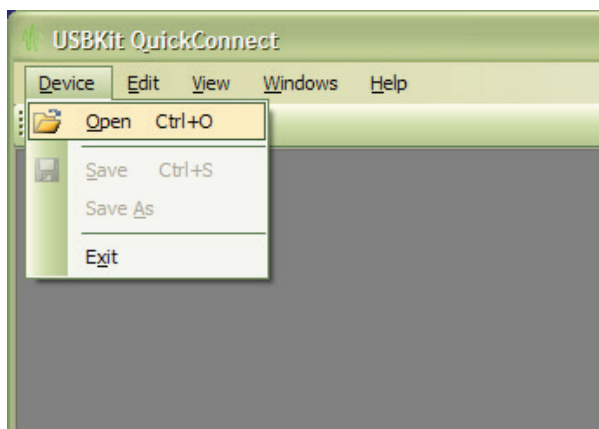

Figure 5. Device Open Menu Selection
- In the top menu, select Device → Open, as indicated in **Figure 5**.